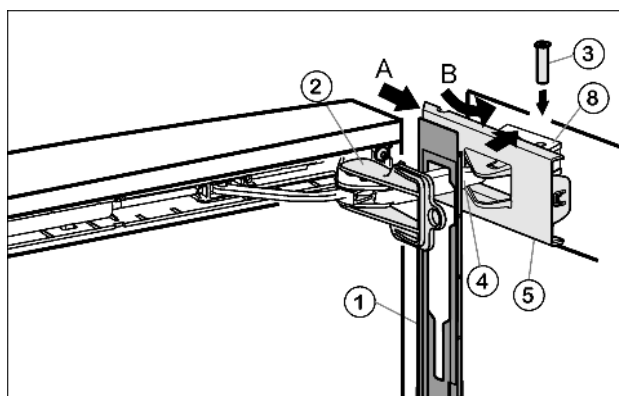

Fig. 18
- ▶ Attach the faceplate *Fig. 18 (1)* to the soft stop bracket *Fig. 18 (4)* so that the catches face inwards and the front faces the appliance.
- ▶ Slide on the cover *Fig. 18 (5)* from the outside (A) and swivel it over the bearing element *Fig. 18 (8)* (B).
- ▶ Attach the cover *Fig. 18 (5)* and engage it as far as the first detent.
- ▶ Draw the soft stop bracket *Fig. 18 (4)* towards the bearing element and insert the pin *Fig. 18 (3)* from above so that the square is seated in the depression.
- ▶ Now completely snap the cover *Fig. 18 (5)* onto the bearing element *Fig. 18 (8)*.
- ▶ Twist the safety lock *Fig. 18 (2)* for removal.
- ▶ Snap the faceplate *Fig. 18 (1)* onto the door.